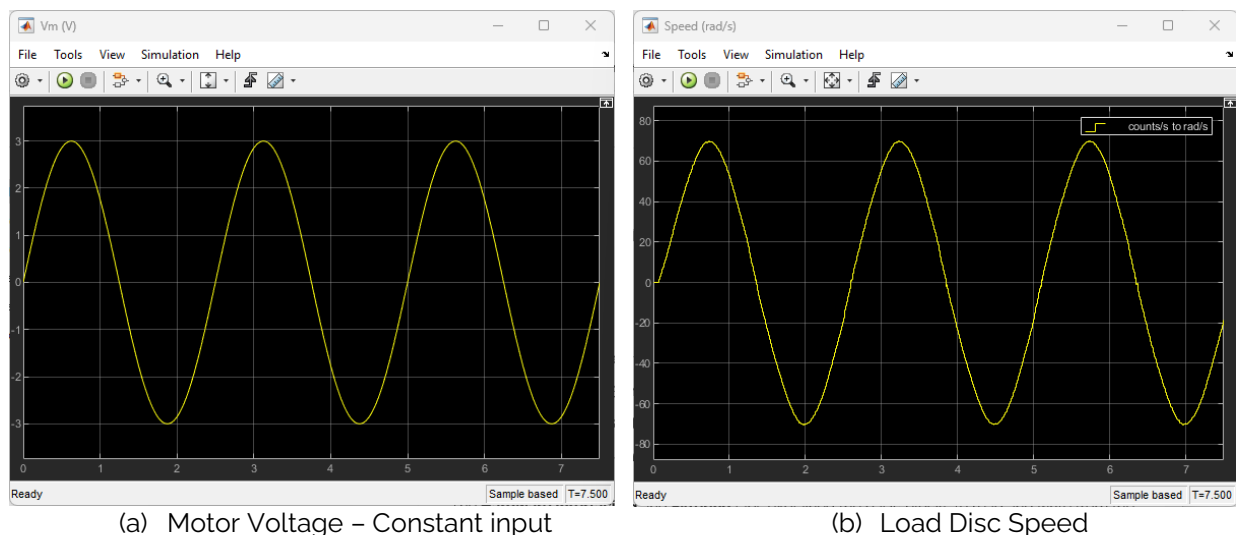

Figure 3: System response when applying a 3V 0.4 Hz sine wave voltage
11. An example response is shown in Figure 3.
19. Run the QUARC controller using the Run  button on the **Simulation** tab. The response should look like figure 3 from the previous section.